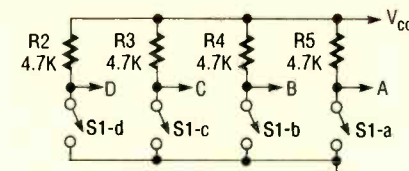

Fig. 1. This bank of switches can simulate the on/off states of four bits.
In place of transistors, a DIP (Dual Inline Package) switch can be connected as shown in Fig. 1 and its on/off states used to represent a binary number as follows: When a switch is open, no current flows through its corresponding resistor, and without current flow there can be no voltage drop across the resistor. That means that both its sides must be at the same potential, so the switch output will be at  $V_{CC}$ . But when the switch is closed, the output sinks to ground for obvious reasons. The on/off states that the switch generates is just like the fully-on/fully-off action of a transistor.
The layout of the circuit was made like this to save space and to mimic the schematic diagram in Fig. 1.
- Position the DIP switch on the board close to the power supply, and connect one side of each of four switches to ground (refer to Fig. 1).